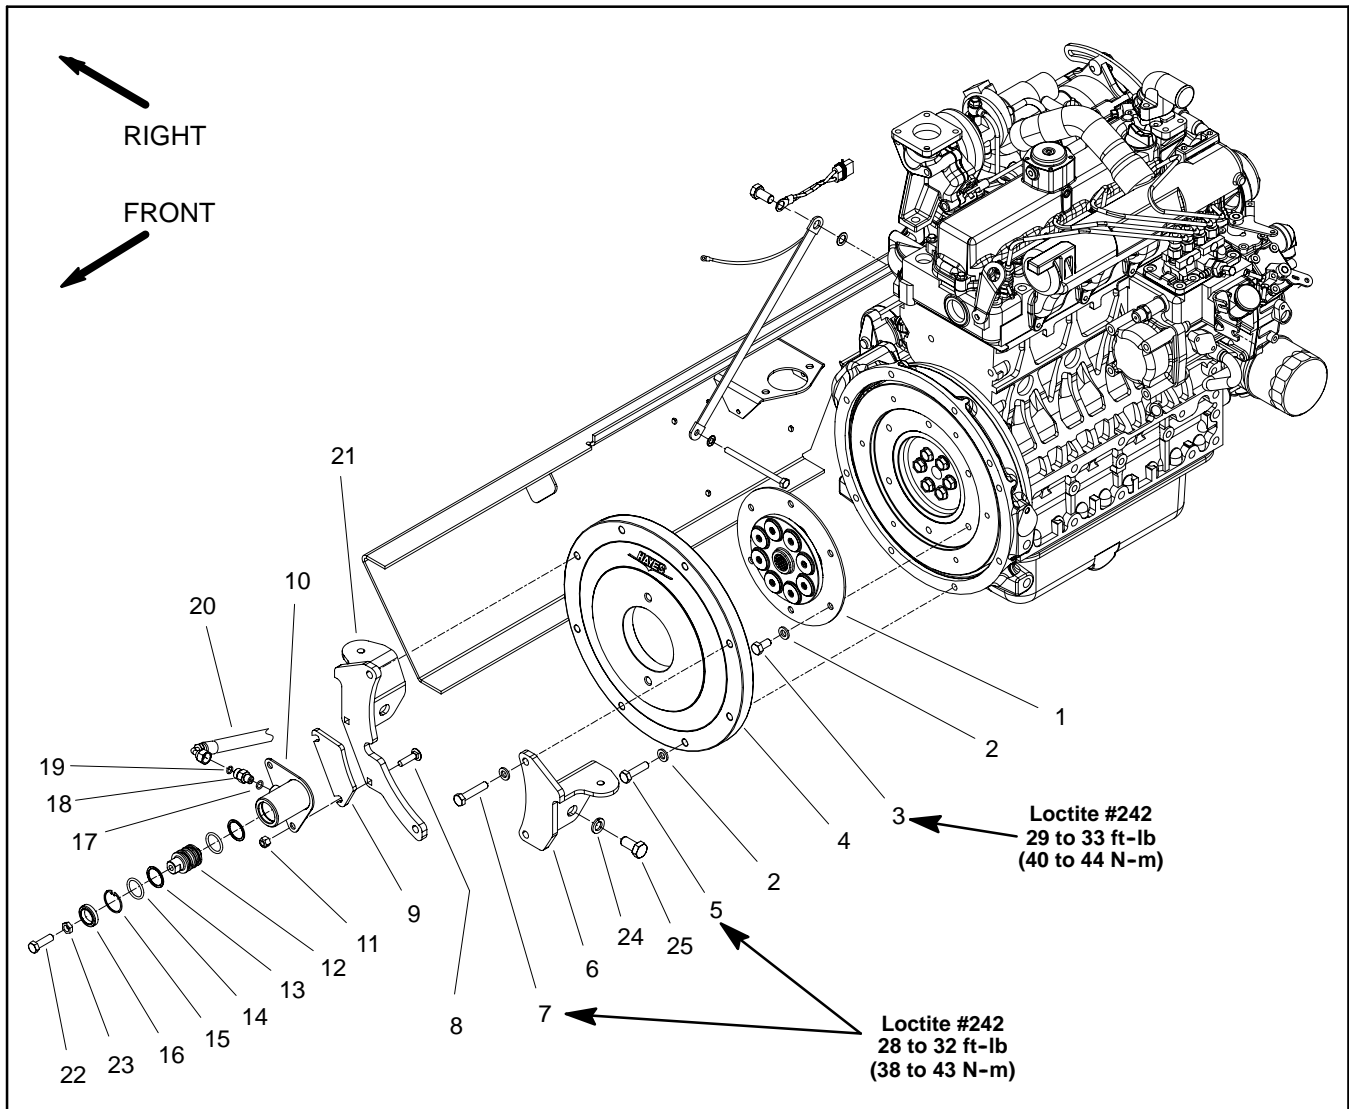

Figure 18
## Coupler Removal (Fig. 18)
2. Remove flywheel plate and spring coupler from engine using Figure 18 as a guide.
## Coupler Installation (Fig. 18)